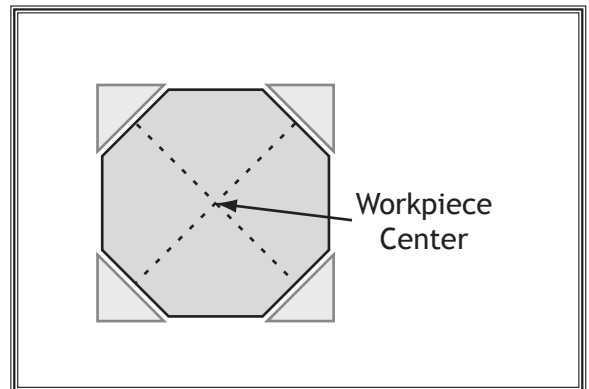

Figure 40. Corners of workpiece removed.
5. If your workpiece is over 2" x 2", cut corners off workpiece lengthwise to make turning safer and easier (see **Figure 40**).